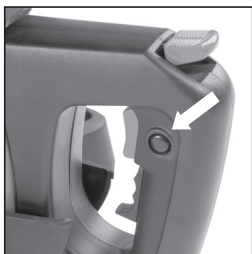

FIG. 23
- Push in the trigger locking button (**Fig. 23**) for continuous motor operation.